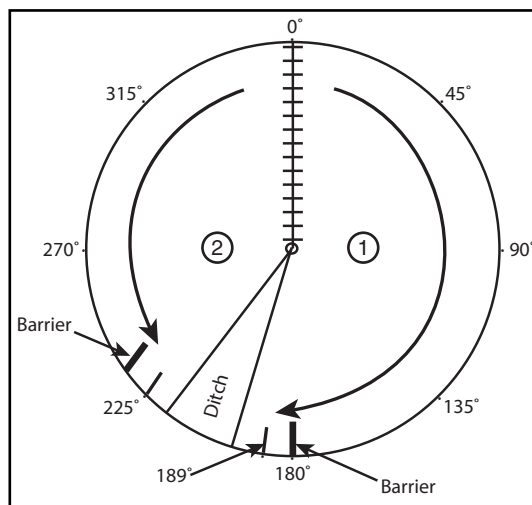

Figure 100-1 1. Sector 1 -Forward
In this program example, the machine is being programmed to stop in the event that it is not stopped by a barrier before crashing into a ditch. The grower will have to manually restart the machine to change its direction. There will be two sectors in this program to accommodate both forward and reverse directions. Refer to Figure 100-1.
1. Push **Prog.** and **Sector Prog.** to view the Sector Program screen. Refer to Figure 100-1.
3. Program the start and end angles, and direction for this sector. Refer to Figure 100-1.